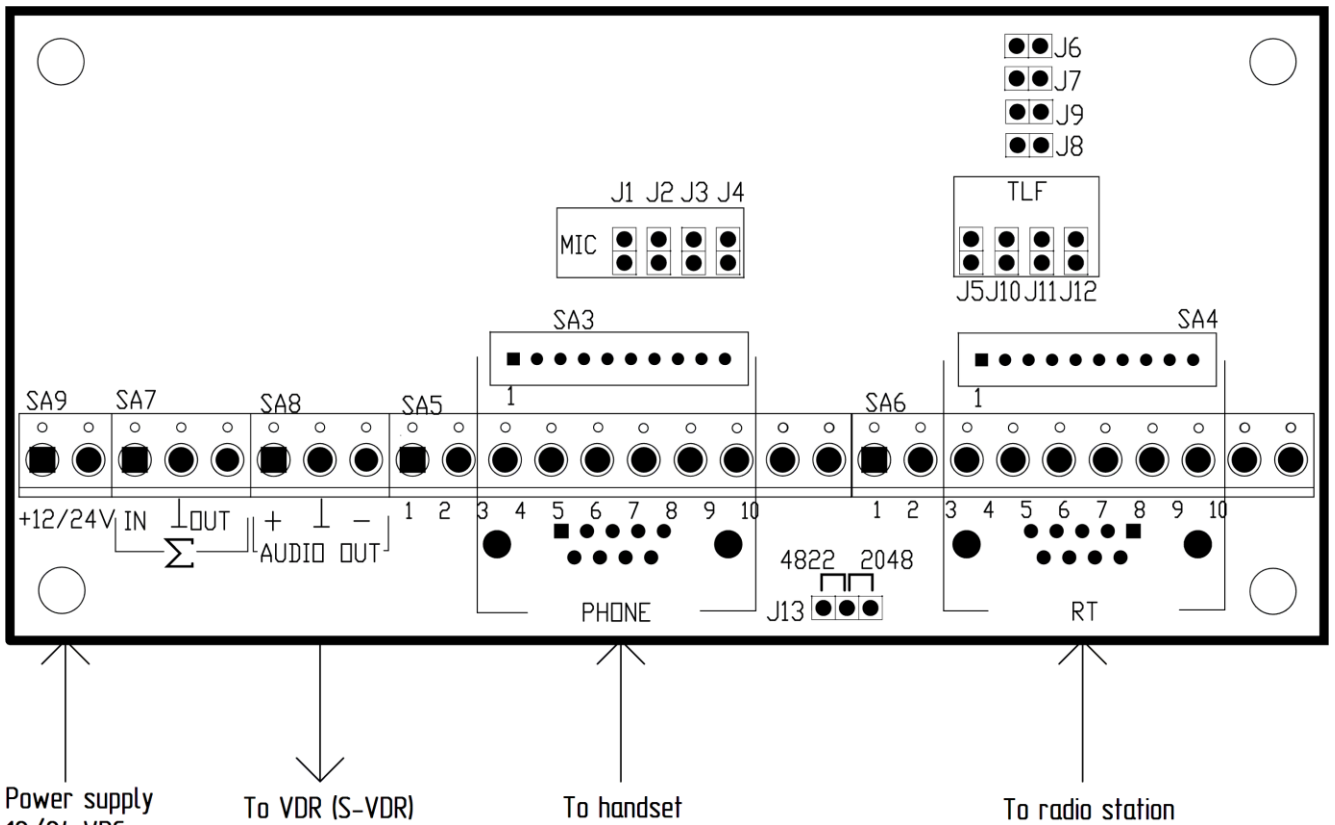

Figure 2 – Connection diagram of the Product and jumpers layout on the printed board.
Figure 2 shows special mounting holes on the Product casing for its installation.
- a) prepare a place for mounting on a vertical bulkhead or mounting panel near VHF-radio station according to dimensional drawing of the Product (see Figure 2);
| Check operation of the Product | 1 connect radio stations and VDR to the Product according to Figure 2 and Table 4; 2 switch on radio station, the Product and VDR; 3 pick up the handset, press PTT and communicate with other party; 4 release PTT, hang up the handset; 5 retrieve communication data from VDR and playback; 6 make sure that audio playback is correct | 1 person 15 mins |